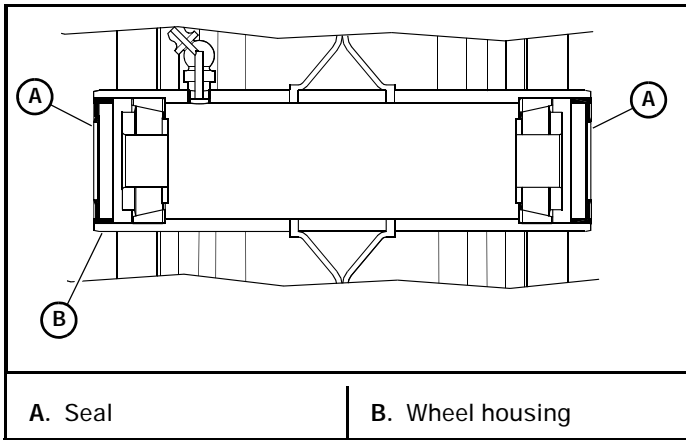

Figure 4-42
3. Insert the new tapered roller bearings into the outer bearing race. Figure 4-42
4. Insert the new seals into the wheel housing. Make sure that the flat side of the seal is flush with the outside edge of the wheel housing. Figure 4-42